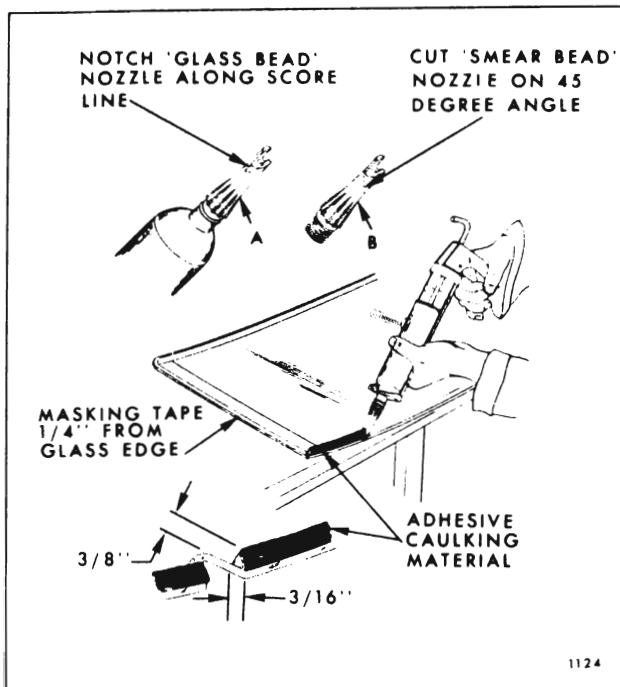

Fig. 4-19—Adhesive Caulking Material Application - Extended Method
8. Apply one inch masking tape completely around inner surface of glass 1/4" inboard from outer edge (see Fig. 4-19). Removal of tape after glass installation will aid in clean-up and give a smooth even edge to adhesive material.
11. Positioning gun and nozzle as shown in Figure 4-19, carefully apply a smooth continuous bead of caulking material $\frac{3}{8}$ " high by $\frac{3}{16}$ " wide at base completely around edge of glass.